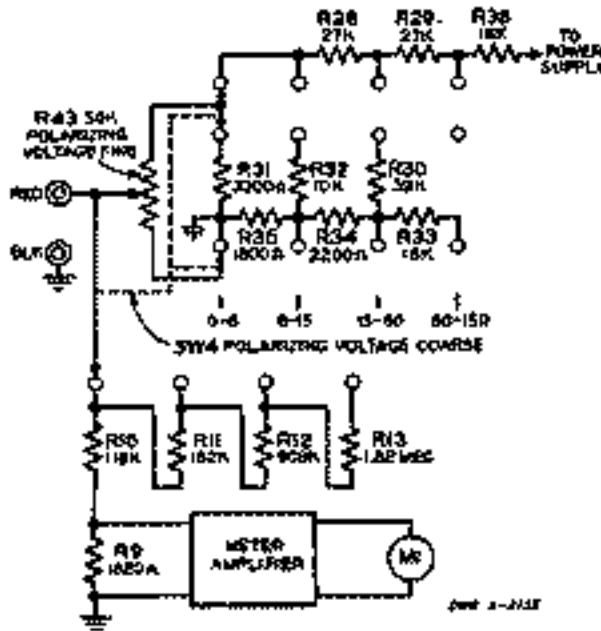

FIGURE 6
4.2 The basic circuit used to obtain the polarizing voltage for the Leakage Current test is shown in Figure 6. This voltage is continuously variable from 0-150 volts, and is controlled by the "COARSE" switch (4 steps) and the "FINE" control which gives full variation within each step.
4.2 The basic circuit for the measurement of leakage current of electrolytic capacitors is shown in Figures 6. The meter amplifier has seven different values of input resistance in order for the meter to read leakage currents ranging from 0.6 to 600 microamperes (full scale values - in seven ranges). The first scale division is  $.02 \mu A$ . Thus  $.01 \mu A$  can be read accurately. The input circuit has a constant voltage drop, on all ranges, of .09 volts. This is particularly important when testing very low voltage capacitors in the 1 or 2 volt range.